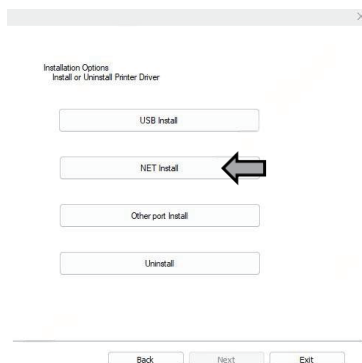

Fig.12
- ⑥ From the “Installation options, Install/Uninstall Printer Driver” interface, select the “Net Install” option (see Figure 12).